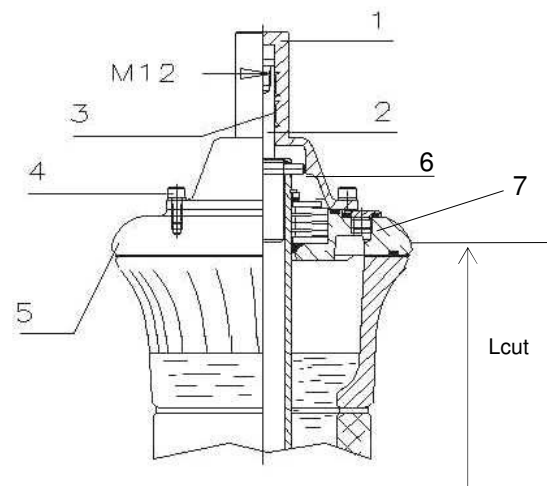
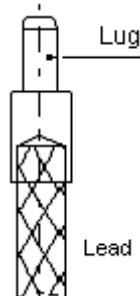

Fig 11
Fig. 12
In this type of execution, the current in the bushing is carried out directly by the lead coming from the transformer's winding, up to the lug placed in the upper part of the bushing (fig. 11 and fig. 12).
Carry out the assembly as follows, making reference to fig. 11 and fig. 12:
- Remove the locking pin (6) from the lug hole.
- Remove the copper lug (2) from the central tube of the bushing;
- Make a hole, in the lug (fig. 12), having diameter at least 2 mm higher than that of the connection and max. 2 mm lower than that of the lug;
- Fix a thread to the lug, using the M12 hole (fig. 11);
- Align the hole in the lug with the hole in the central tube and secure the lug in position by reinstalling the locking pin (6);
- Insert the HV terminal (1) on the lug, keeping the terminal well centered on the axis of the bushing. The necessary force is small (about 10 kg) because the multicontact blades, located inside the terminal, press softly on the smooth surface of the lug. The top terminal cap will hold the pin in place. Tighten the screws by a moment of 13 Nm. The gasket placed between the two pieces, assures the transformer oil tightness and for this reason it is necessary to block the terminal before filling the transformer with oil. The gasket which is necessary to assure the tightness between the oil of the bushing and the oil of the transformer is not involved in this assembly. The external line connector to the HV terminal must be of compatible material. Clean well the terminal and apply a specific grease for electrical contact and then assembly the connector to the HV terminal.
Furthermore, lift a little the HV terminal (fig. 11 item 1) in order to allow the air to go out and complete the filling of the transformer and of the lower part of the inner tube of the bushing.